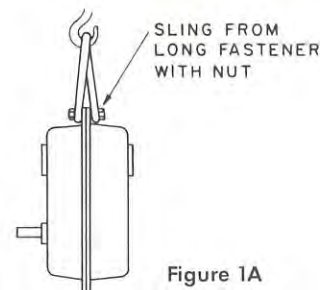

Figure 1A
**Horizontal Shaft Mounted Drives:** Determine tie rod location on drive from Figure 8. Remove the two housing flange fasteners (three on Sizes 2307 and 3315) and discard them. Assemble the tie rod anchor brackets to drive with the longer fasteners supplied with the tie rod. Torque fasteners to value specified in Table 1. Install the tie rod fastener in the tie rod anchor brackets, sling the drive from the fastener as shown in Figure 1A and lift the drive.